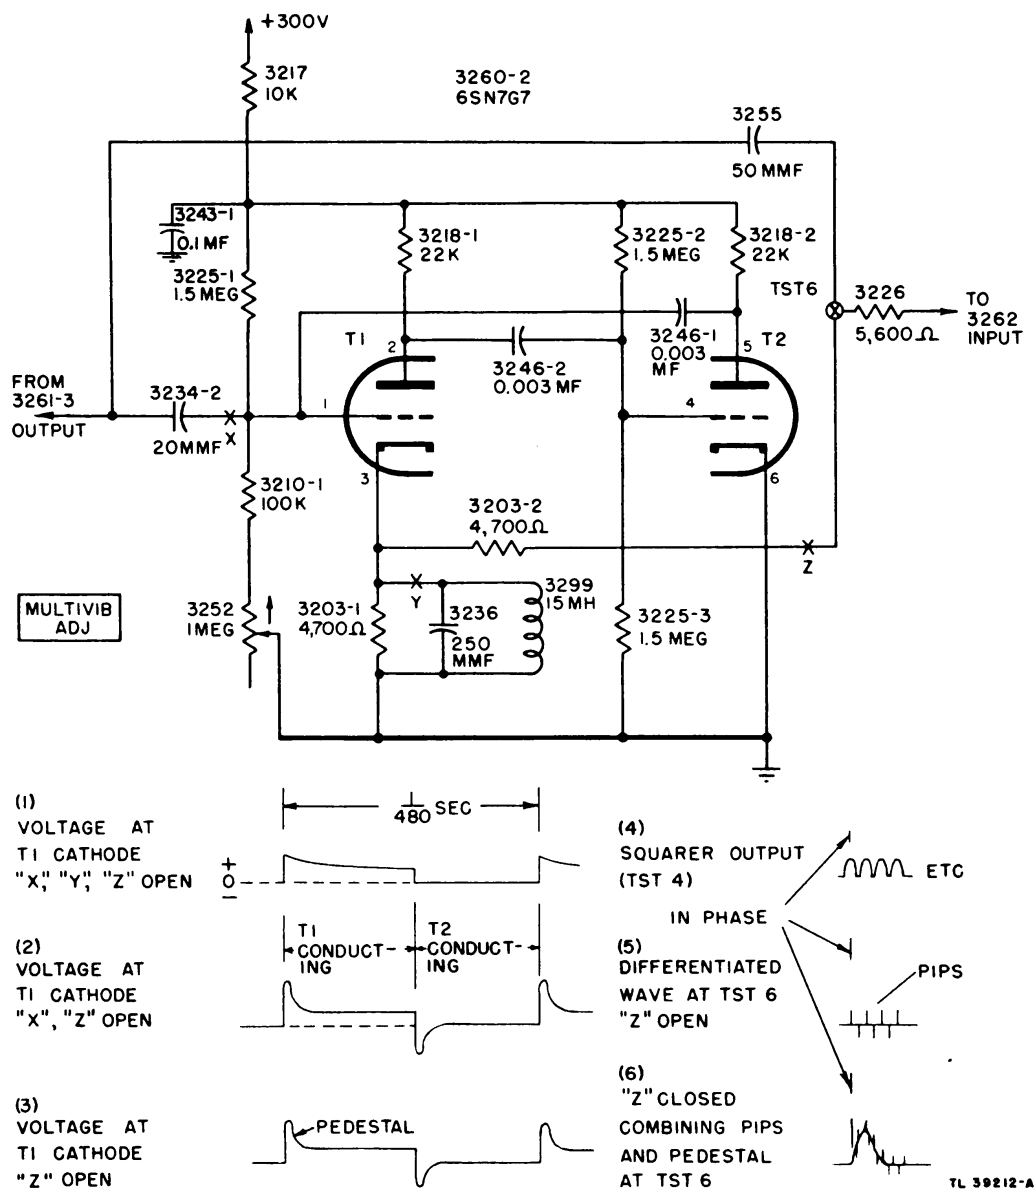

Figure 6. 480-cycle multivibrator, simplified schematic diagram.
(1) Assume that the circuit is opened at points X, Y, and Z (fig. 6). The circuit now appears as a conventional multivibrator with feedback from each plate to the opposite grid. The free-running frequency depends mainly on the time constants of the two grid circuits: capacitor 3246-2 and resistors 3225-2 and 3225-3 in parallel; and capacitor 3246-1 and resistor 3225-1 in parallel with 3210-1, and 3252. Variable resistor 3252 permits setting this frequency at approximately 480 cycles at the factory. The voltage across cathode resistor 3203-1 from this free-running multivibrator should appear as shown at (1) in figure 6, the voltage at cathode terminal 3 being positive with respect to ground during the half-cycle when T1, the left half of the triode, is conducting.
(2) If the parallel tuned circuit formed by capacitor 3236 and inductor 3249 is now connected by closing point Y, damped oscillations are produced, as shown at (2) in figure 6.
(3) If point X is closed, some voltage from the squarer, tube 3261-3, will be fed to the grid of T1. Therefore, when T1 is ready to start conducting because of relaxed grid bias, the next positive pulse will trigger T1. This insures that the positive pulses or pedestals, shown at (3), always start in phase with a positive voltage swing at test point 4, the squarer output.
(4) When point Z is closed, the pips shown at (5) (fig. 6) and the pedestal from the cathode of T1 are combined, and the pips are superimposed on the pedestal, as shown at (6).